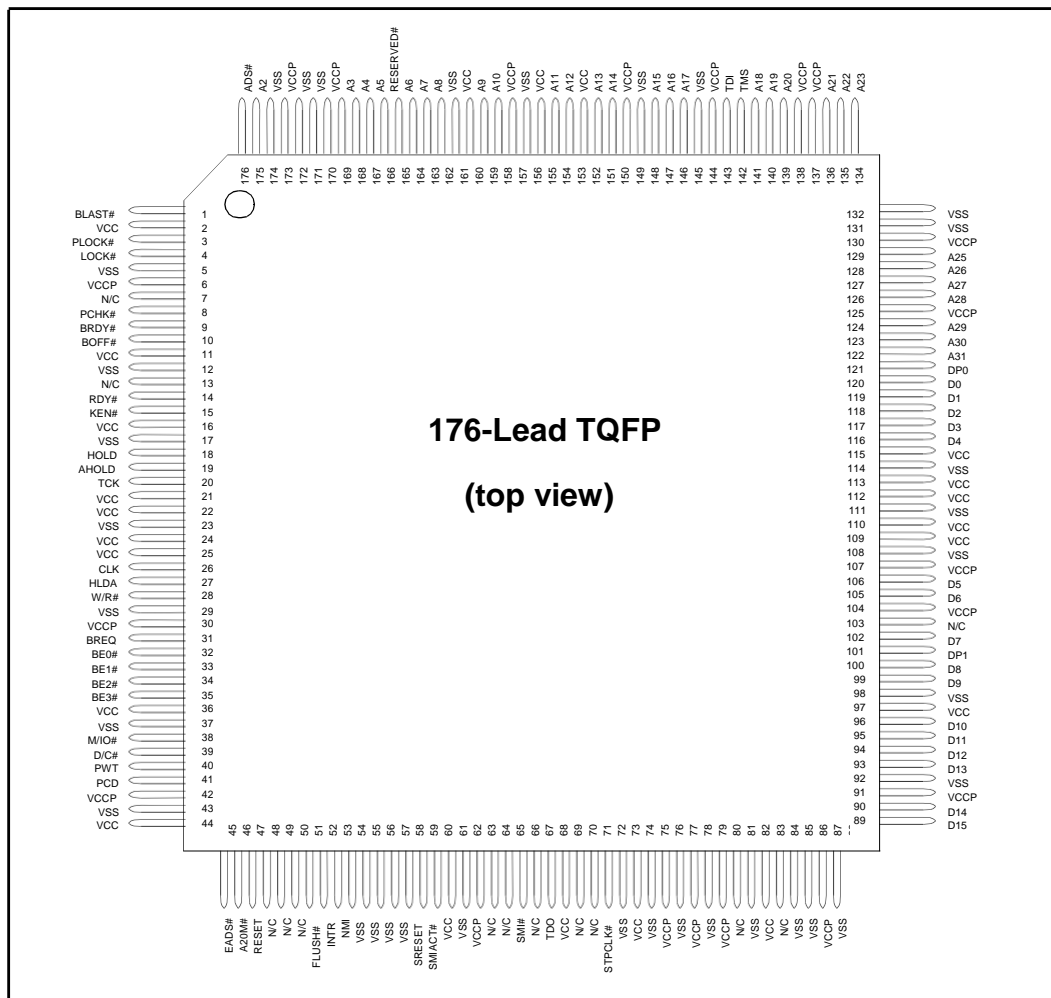

Figure 2. Package Diagram for 176-Lead TQFP Package Embedded ULP Intel486™ GX Processor
- Figure 2, Package Diagram for 176-Lead TQFP Package Embedded ULP Intel486™ GX Processor (pg. 4)